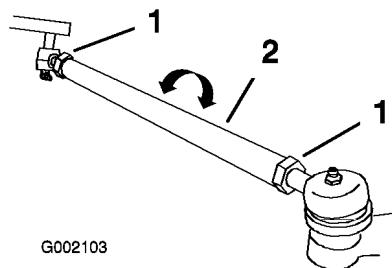

Figure 29
3. If the measurement does not fall within the specified range (refer to the dimensions and parameters at the beginning of this procedure), loosen the jam nuts at both ends of the tie rods (Figure 29).